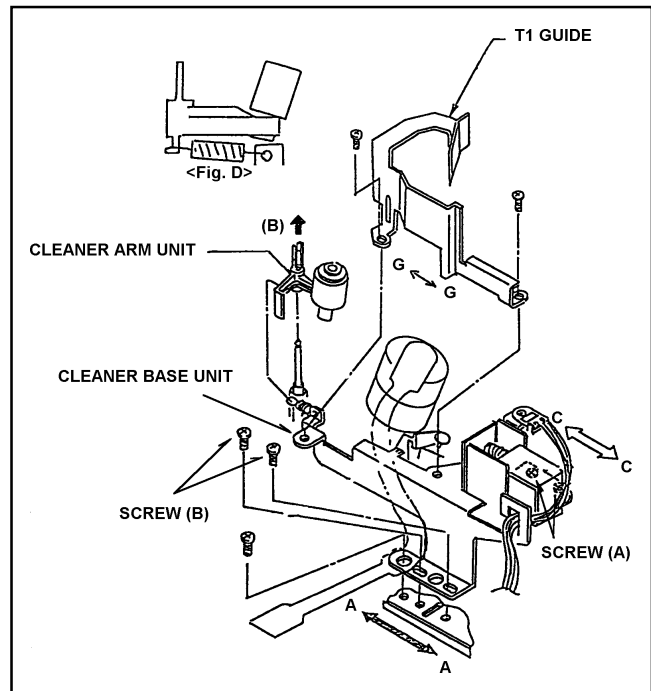

Figure 5-20-2
2. Observe the clearance (D) between Cleaning Arm Unit and Cleaner Base Plate as shown in Figure 5-20-2. And make sure that it is within 0.5 to 0.7mm.
3. If not, loosen the 2 screws (A) and adjust the position of Cleaner Solenoid Unit by moving arrow direction (C \longleftrightarrow C) using the Eccentric drive so that the clearance (D) is within the specification. And tighten the 2 screws.
2. If not, loosen the 2 screws (B) as shown in figure 5-20-2 and adjust the position of Cleaner Base Plate by moving arrow direction (A \leftrightarrow A) using the Eccentric driver so that the clearance (A) is within the specification. And tighten the 2 screws (B).